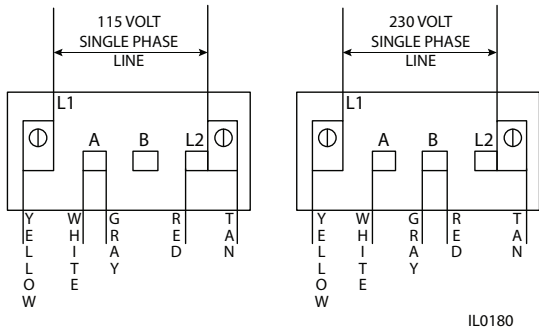

Figure 8 - F&W Wiring Diagram for Single Phase
Use wire size specified in wiring Chart E. If possible, connect pump to a separate branch circuit with no other appliances on it. If wiring diagram on motor model plate differs from diagram shown in figures 8, 8A, 9 & 10, follow diagram on motor.
- To change voltage, remove the rear access cover, which is held in place with two (2) screws. For proper electrical connection, refer to the connection diagram located on the motor nameplate or figures 8, 8A, 9, 10, 11 & 12.